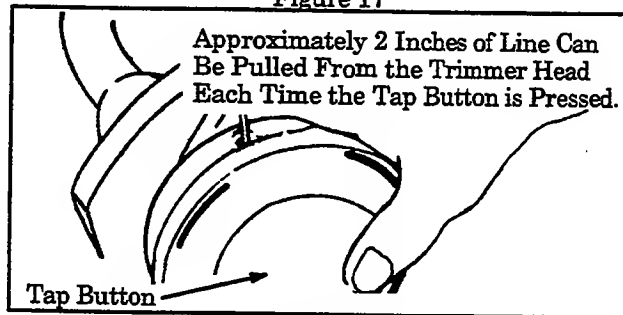

Figure 18
- i. Obtain correct line length, 4–6" (10–15 cm) by pressing the tap button (Figure 18) and pulling on the line again.
NOTE: Each time the tap button is pressed, approximately 2" (5 cm) of line can be pulled from the trimmer head. Figure 18.